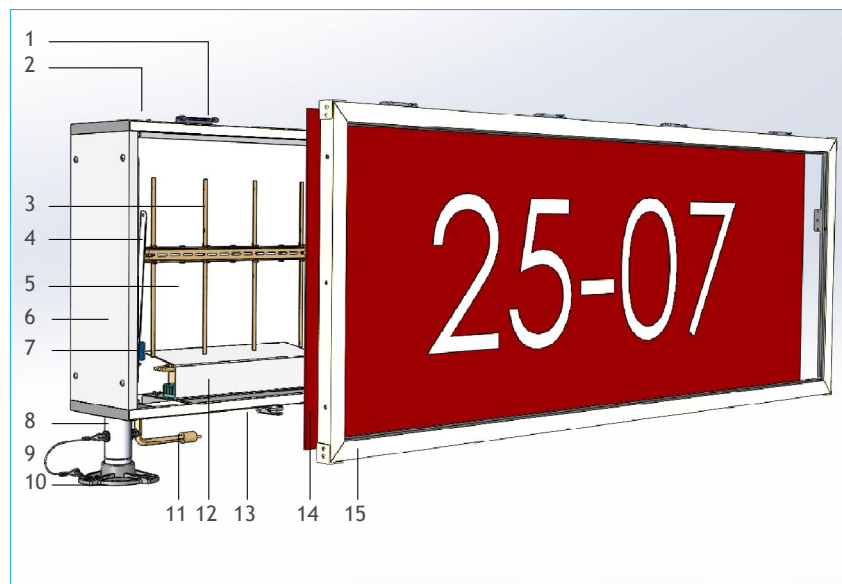

Fig. 2
**Mandatory signs:** They include road-, taxi- and Cat I, II and III holding position signs, runway designation signs and "NO ENTRY" signs. They have white messages on red background (Fig. 2).